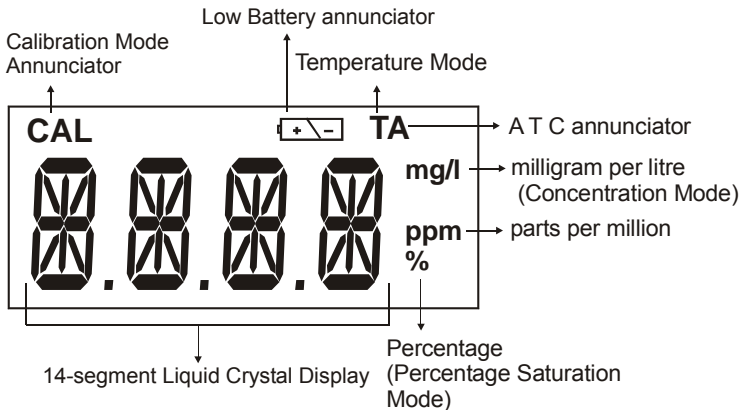

Figure 1: Active LCD display for DO 6
The meter has a large custom LCD that consists of 14-segment 4 digit display and operation annunciators for Percentage Saturation measurement mode (%), Concentration measurement mode (mg/L or ppm) and Temperature measurement mode in degrees Celsius (T). Other annunciators include "A" (when the ATC function is activated), "CAL" (when meter is in calibration mode) and battery diagram for low battery condition. See Figure 1.